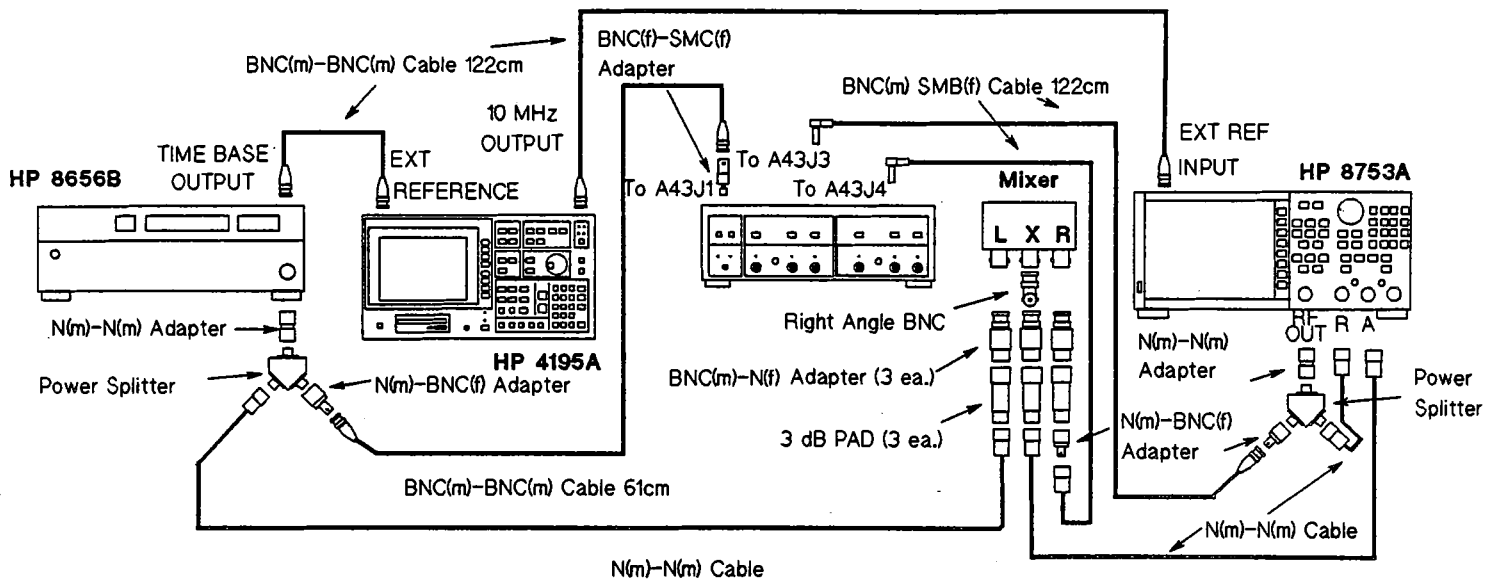

Figure 3-115. Source First IF Converter 86.6 MHz BPF Adjustment Setup
2. Connect the equipment as shown in Figure 3-115.